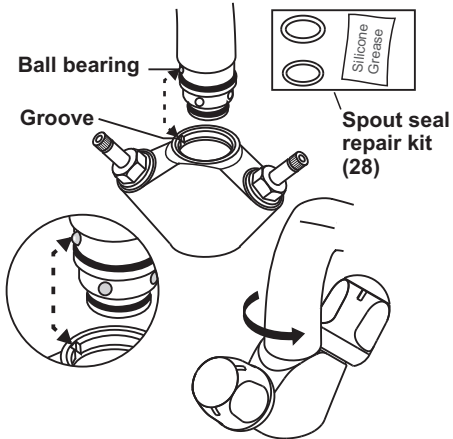

Figure 4 Spout fixation
- Position the spout with the outlet nozzle facing the 10 o'clock position so that the ball bearing engages with the groove in the body. See Fig 4